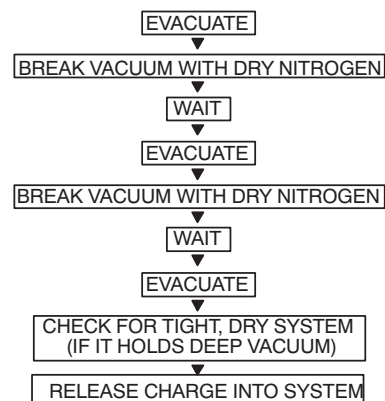

Fig. 27 — Triple Evacuation Method
The triple evacuation method should be used when vacuum pump is not capable of pumping down to 500 microns and system does not contain any liquid water. Refer to Fig. 27 and proceed as follows:
5. Repeat this procedure as indicated in Fig. 27. System is now free of any contaminants and water vapor.